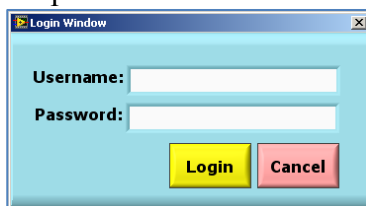

Figure 1.3-2: The Login Window
3. Enter a valid username and password on the **Login** window (Figure 1.3-2). Please note that the password is case sensitive. When done, click the **Login**